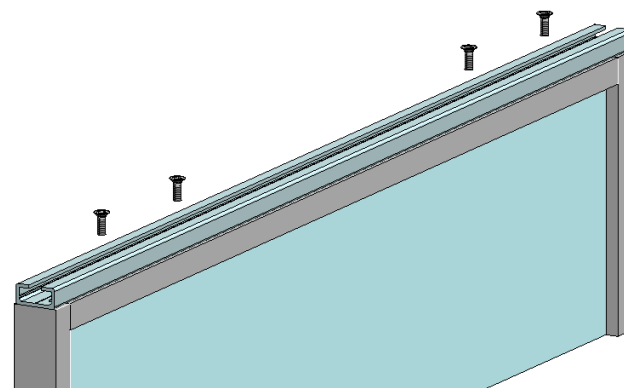

fig. 9
1. Secure to the leaf, the leaf fitting profile cut to the same length, and secure it with adequate screws on the upper part (fig. 9).